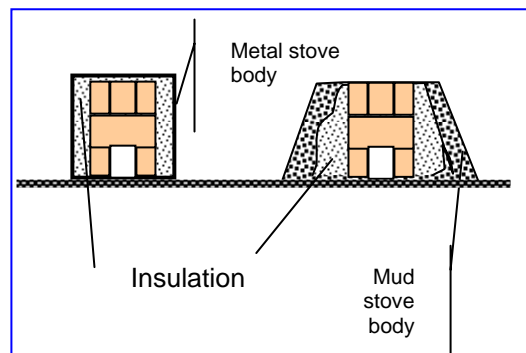

Figure 3 Placement of bricks
- These bricks can then be placed in a metal stove body or in a mud stove (figure 3)